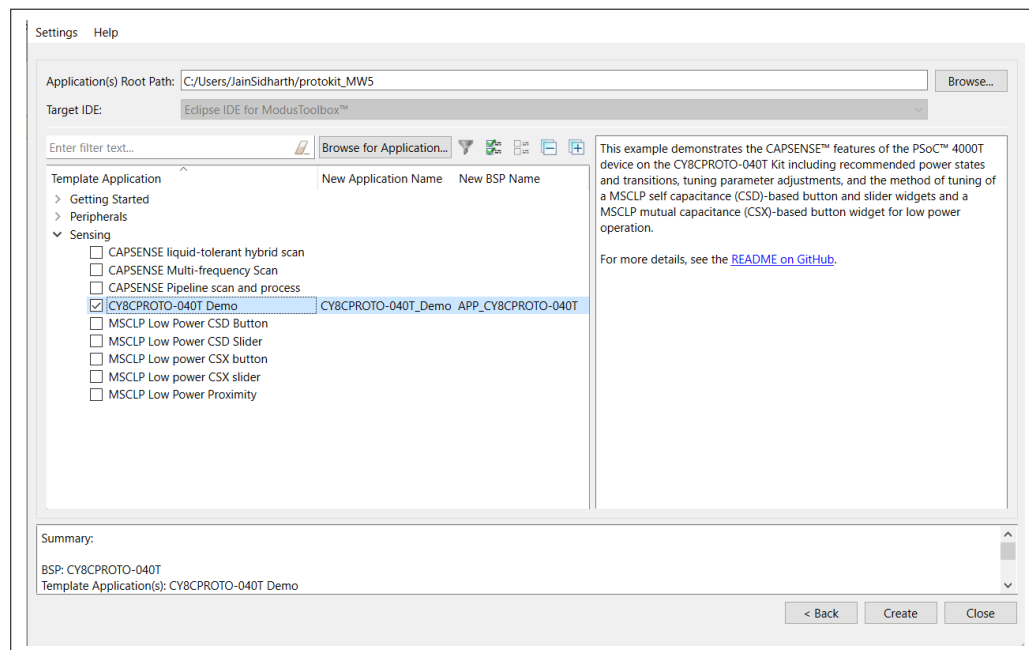

Figure 13 Creating a new application: Select Application
Note: More code examples are available in the Eclipse IDE for the ModusToolbox™ software (see Figure 13) or on the GitHub page dedicated to ModusToolbox™ software-based examples to evaluate the board such as the following:
- b. Select the required application and click **Create**, as shown in Figure 13.